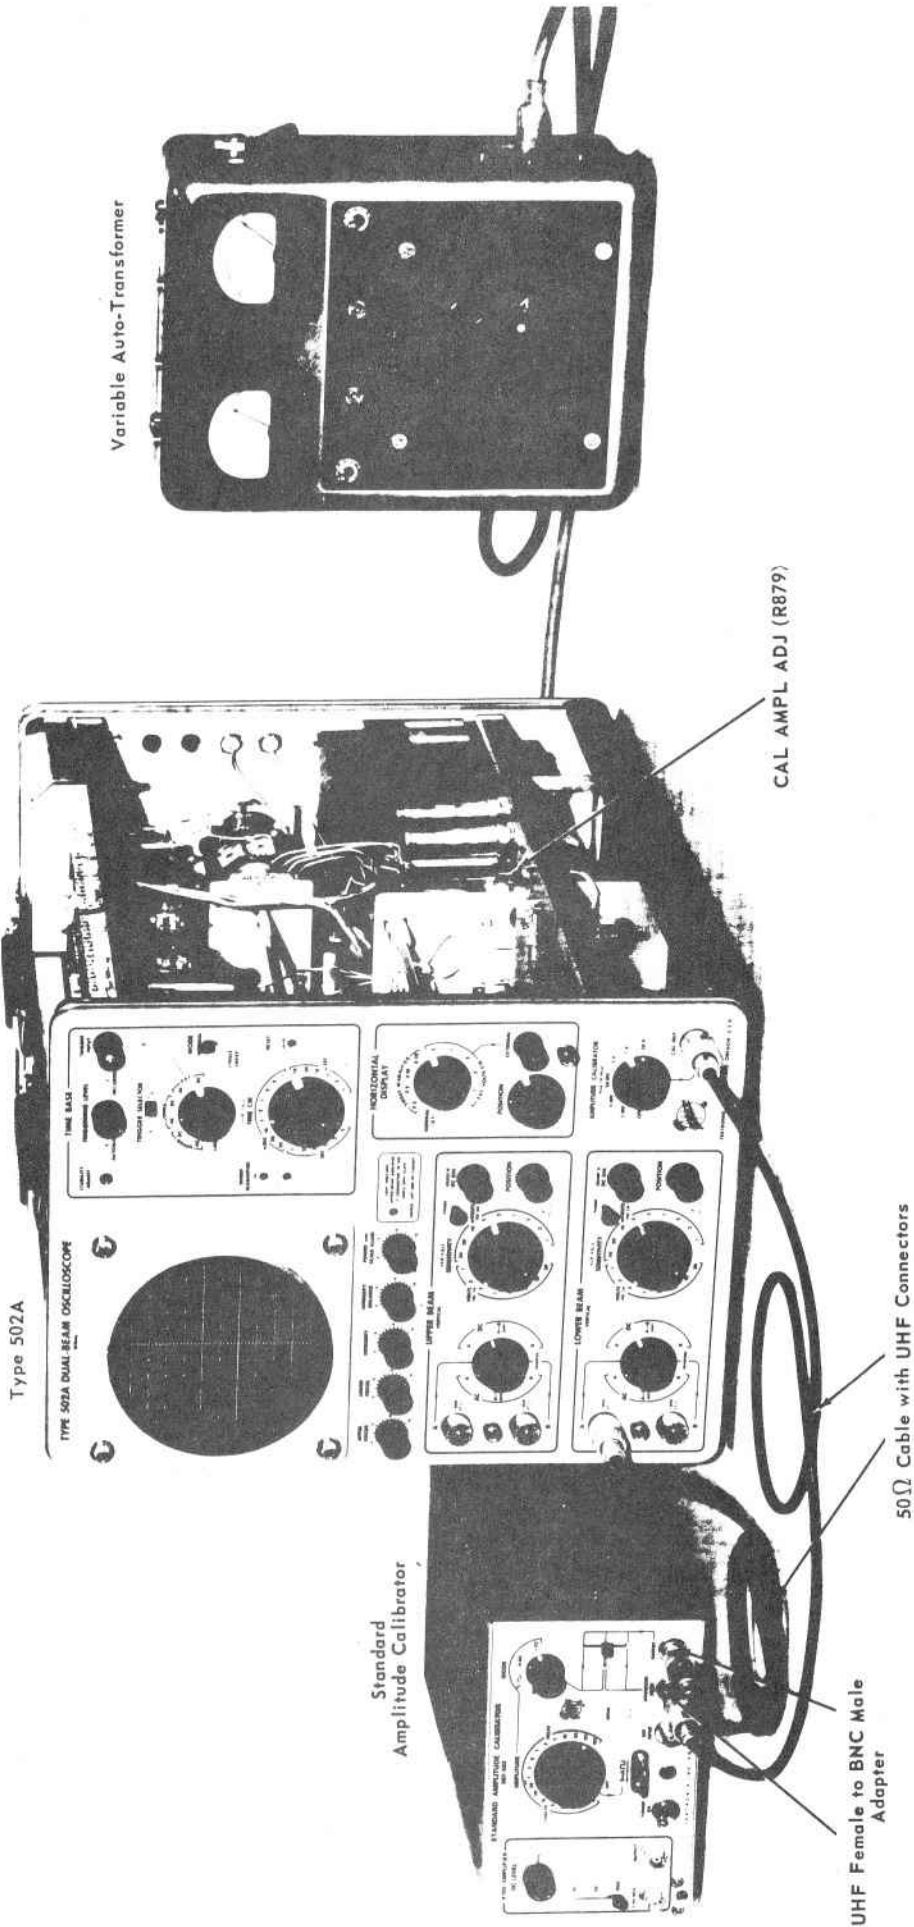

Fig. 6-38
Photo of test equipment setup, Fig. 6-38.
New photo of test equipment setup (Fig. 6-38). Use the same cutline.
- a. Connect the equipment as shown in Fig. 6-38.